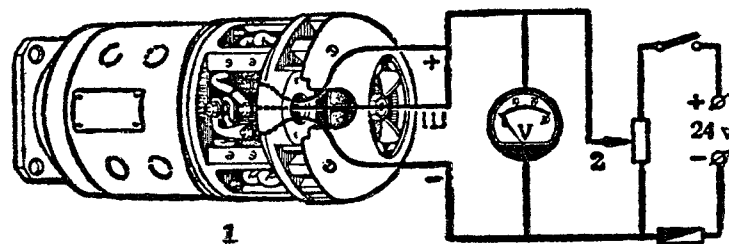

Fig. 3-16 Schematic Diagram of Generator Being Energized
(2) Washing, cleaning and inspecting.
(3) Assembling. In assembly, fit the reverser pin and carbon brush in the original position. After assembly, rotate the fan with hand, the rotation of armature should be flexible.
(4) Running with power-on. Connect the test set well as shown in Fig. 3-16. Then, turn on the power supply switch, after the generator is in normal operation, adjust the voltage of power supply to 15-20v, check the sparks between the carbon brush and commutator, and the sparks should not exceed 1½ grade (See Appendix IX).
(5) Measure the insulating resistance. After power-on check, measure the insulating resistance between the terminal and case with a megohmmeter, the value should not be less than 2 megohm.